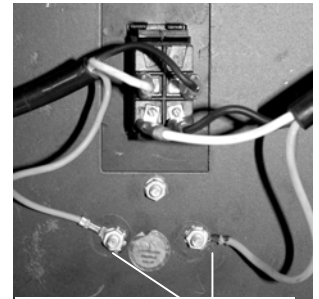

Figure 13 Ground Wires
Take the single black power cord and insert the black, white and green wires through the three parts of the cable bushing (AA) before inserting them through the front panel of the stand. (Figure 13) **Do not tighten the bushing until the wires are connected to the proper terminals.** Once the wires are inserted through the front panel, insert them through one of the holes in the switch cover. (The cover has been removed in Figure 13 to better show the connections to the terminals.) Be sure the clear plastic insulation stays with each wire. Once the wires are through, pull some of the black cable through as well. This will make it easier to connect the wires to the terminals.
Attach the black wires to the terminals on one side of the switch, and the white wires to the terminals on the other side. The green Ground wires are connected directly to the steel side panel with a nut, bolt and washer on each. The Ground symbol (⊕) is located in the center of two holes, which are covered by stickers. Remove the stickers, insert a bolt with the ground wire attached through each, and apply the washer and nut. Once tightened, the Ground wires use the steel structure of the machine to ground the electric. (Figure 13)